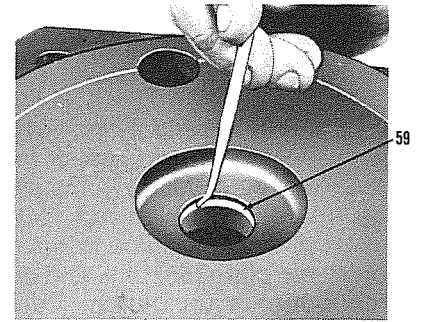

Figure 7-13, Installing scraper ring into oil end plate.
7.2.5 Lubricate scraper ring (59) with Molykote®. Using installation pry tool, install ring in oil end plate (58). See Figure 7-13.